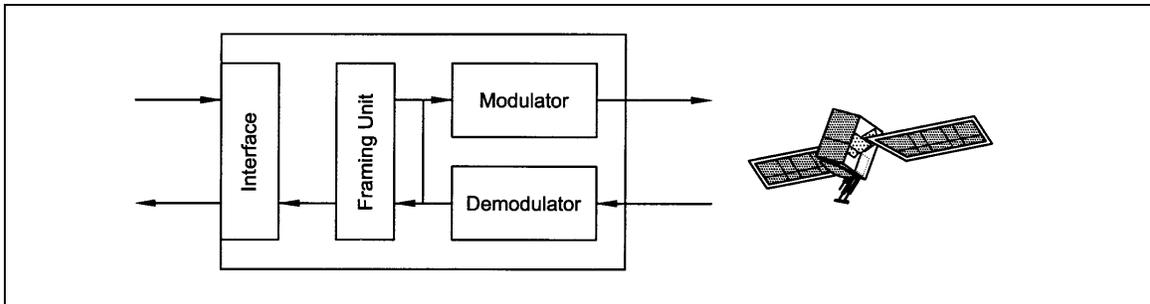

Figure 3-7. Rx Baseband Loopback
**Rx BB Loopback** – The Rx Data received by the satellite is passed through the interface and looped back through baseband framing unit, then sent back through the interface for retransmission to the satellite providing a far end loopback (refer to Figure 3-7).